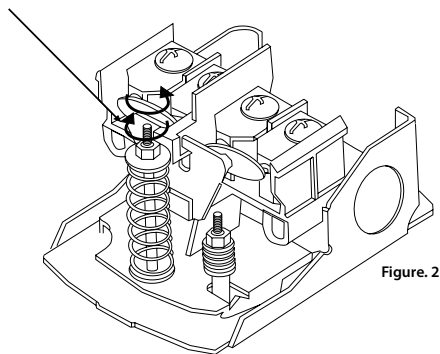

Figure. 2
3. If there is a momentary pause in the water flow from the time the AQT™ Hydropneumatic Pressurized Tank is emptied and the pump starts, adjust pump cut-in setting clockwise slightly (*Figure. 2*).